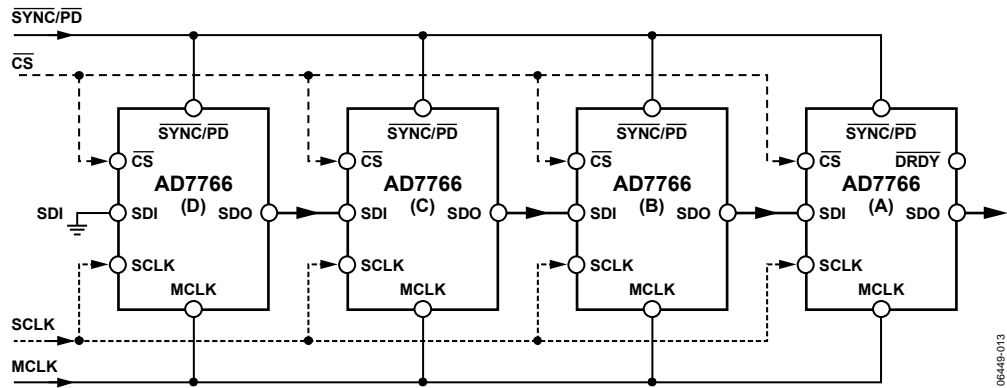
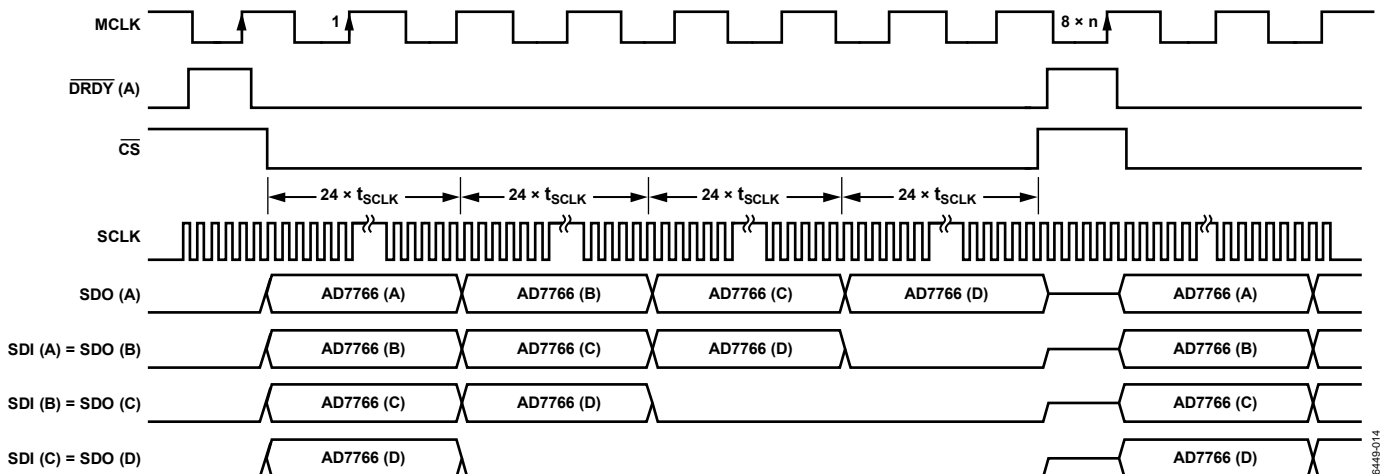
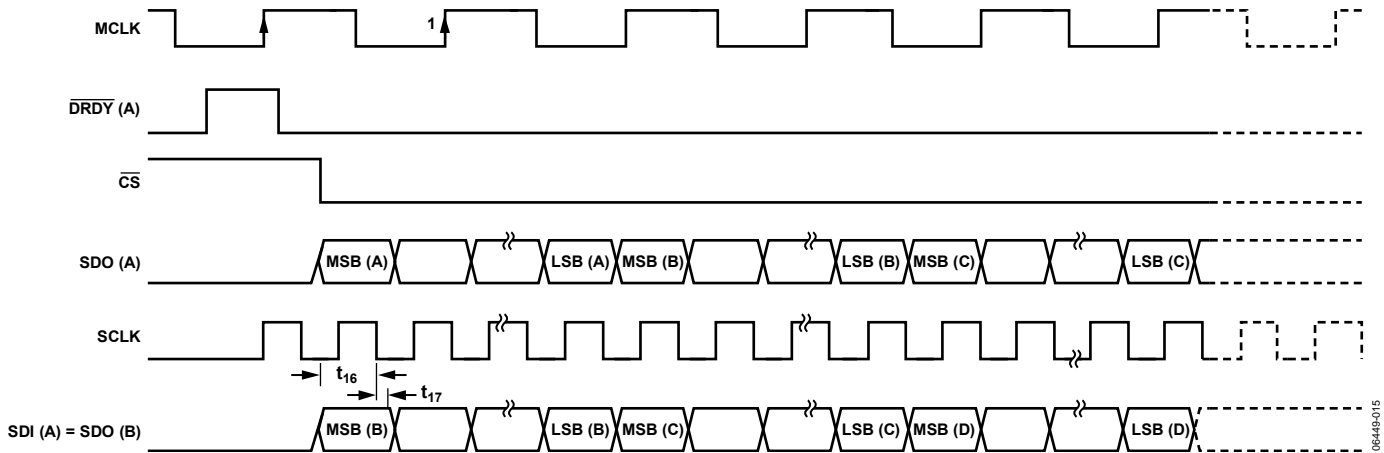

Figure 36. Daisy-Chain Configuration with Four AD7766 Devices
Figure 37. Daisy-Chain Timing Diagram ($n = 1$ for AD7766, $n = 2$ for AD7766-1, $n = 4$ for AD7766-2) When Driving the AD7766
Figure 38. Daisy-Chain SDI Setup and Hold Timing
The block diagram in Figure 36 shows how devices must be connected to achieve daisy-chain functionality. The scheme shown operates by passing the output data of the SDO pin of an AD7766 device to the SDI input of the next AD7766 device in the chain. The data then continues through the chain until it is clocked onto the SDO pin of the first device in the chain.
An example of a daisy chain of four AD7766 devices is shown in Figure 36 and Figure 37. In the case illustrated in Figure 36, the output of the AD7766 labeled A is the output of the full daisy chain. The last device in the chain (the AD7766 labeled D) has its serial data input (SDI) pin connected to ground. All the devices in the chain must use common MCLK, SCLK, $\overline{\text{CS}}$, and $\overline{\text{SYNC/PD}}$ signals.
After applying a $\overline{\text{SYNC/PD}}$ pulse to all the devices, there is a delay (as listed in Table 7) before valid conversion data appears at the output of the chain of devices. As shown in Figure 37, the first conversion result is output from the AD7766 device labeled A. This 24-bit conversion result is followed by the conversion results from the devices labeled B, C, and D, with all conversion results output in an MSB-first sequence. The stream of conversion results is clocked through each device in the chain and is eventually clocked onto the SDO pin of the AD7766 device labeled A. The conversion results of all the devices in the chain must be clocked onto the SDO pin of the final device in the chain while its $\overline{\text{DRDY}}$ signal is active low. This is illustrated in the examples shown (Figure 37 and Figure 38), where the conversion results from
As shown in Figure 37, the number of SCLK falling edges that occurs during the period when $\overline{\text{DRDY}}$ (A) is active low must match the number of devices in the chain multiplied by 24 (the number of bits that must be clocked through onto SDO (A) for each device).